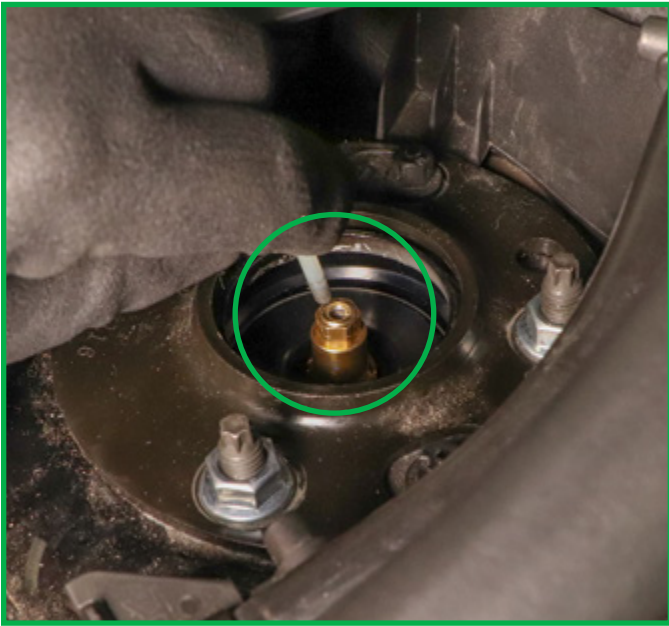

FIGURE 39
12. Connect the air line to the strut air fitting. Push in until line is firmly seated. (Figures 39, 40)